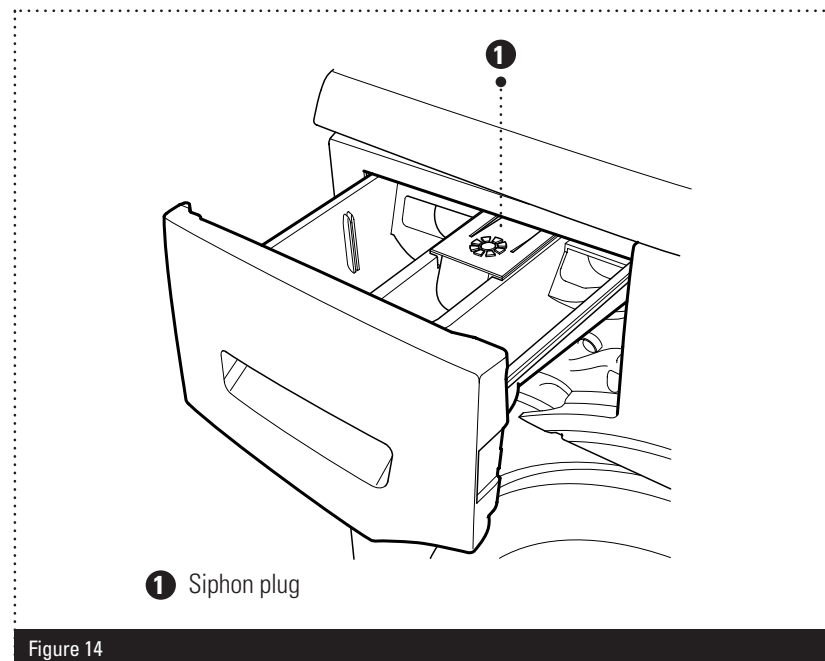

Figure 14
- 2 Press down on the siphon lid (fig 14) and pull the drawer from its housing.